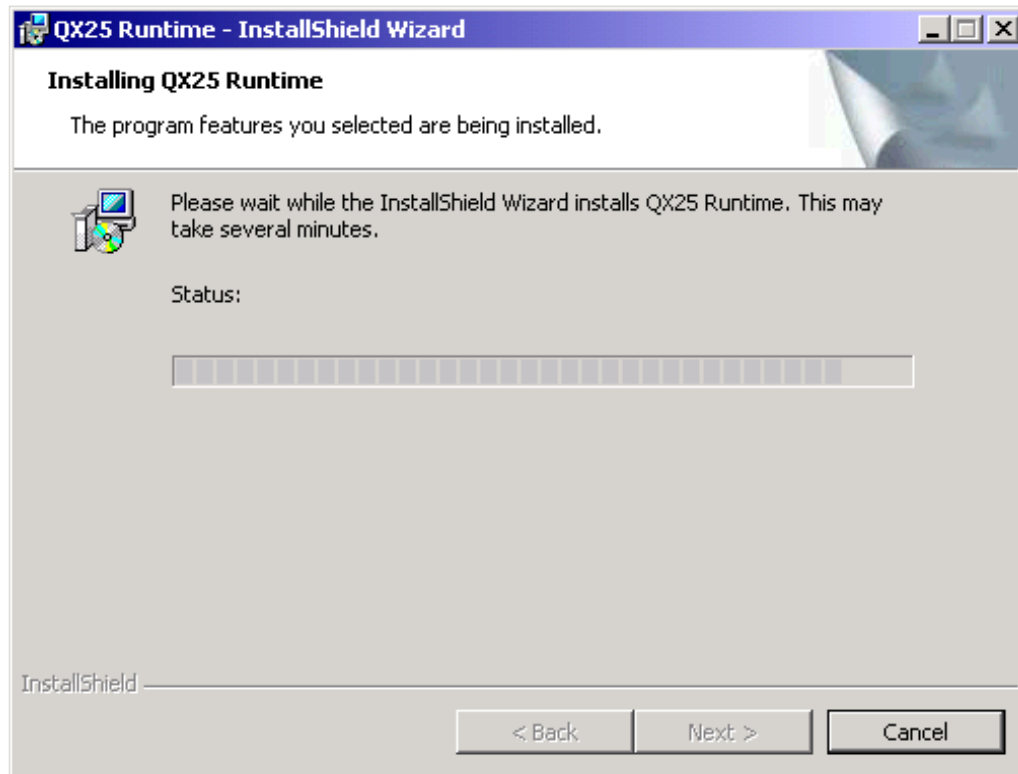

FIGURE 161. Installing QX25 Runtime window
21. The window in Figure 161 appears as the install is in progress.